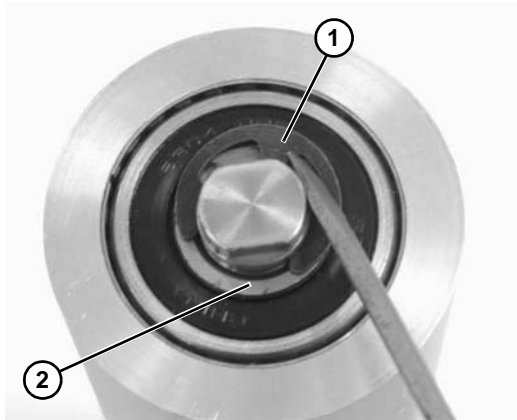

Figure 76
6. Remove the pulley shaft assembly: remove the clip ring (**Figure 76, item 1**) and washer (**Figure 76, item 2**) from one side of the pulley assembly.